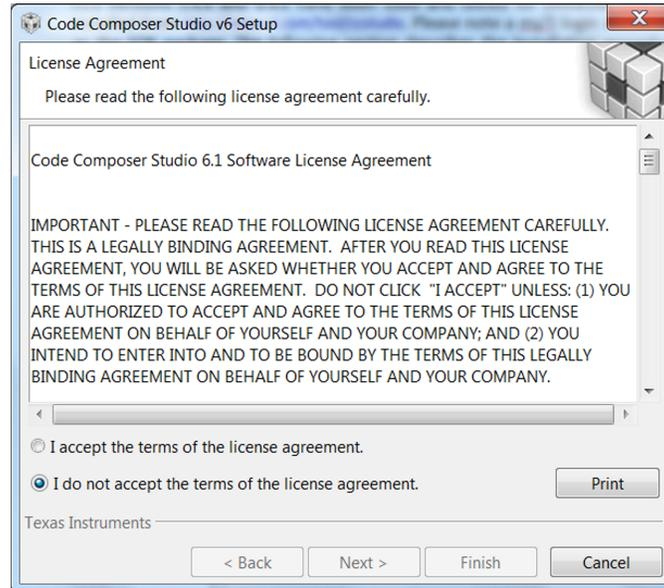

Figure 9. CCS License Agreement
Step 2. Read through and accept the license agreement to proceed with the installation (see Figure 9).